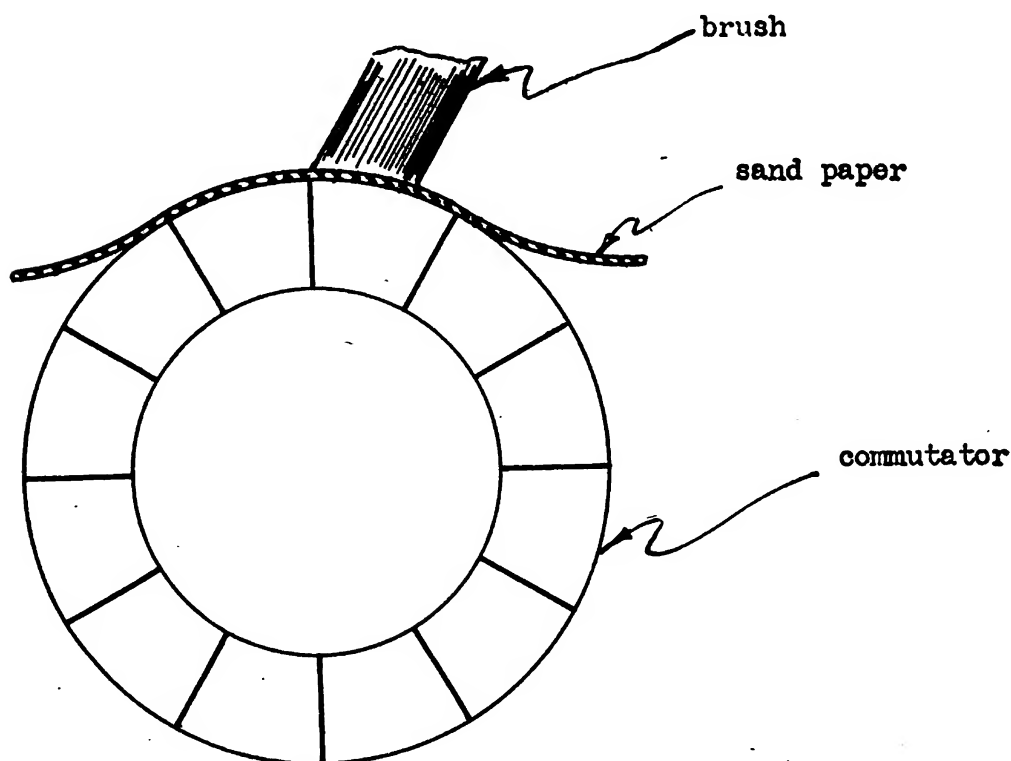

FIGURE 74.—Sanding in a brush.
c. Brushes are usually made of carbon with sufficient graphite to provide the necessary lubrication. Brushes make a sliding contact, but should never be oiled. The brush should slide freely up and down in its holder and should make contact with the commutator over its entire end surface. If these two requirements are not met, the condition should be remedied as follows: A tight brush can be relieved by sanding or filing the sides of the brush until the proper clearance is obtained. Figure 74 illustrates the methods of sanding the face of a brush to cause it to make good contact with the com-